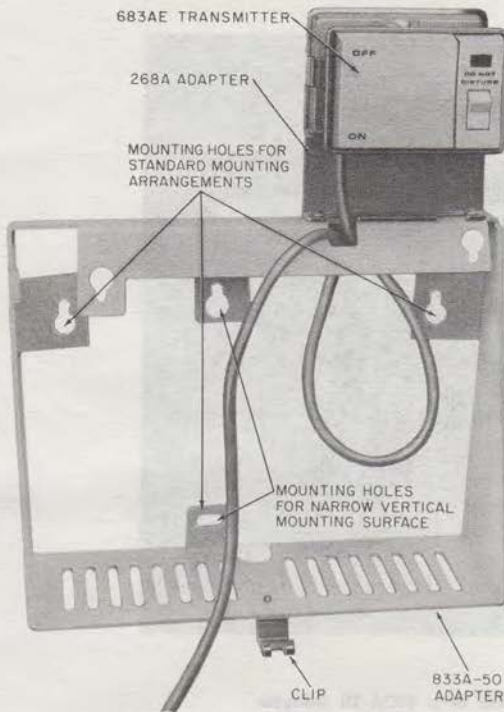
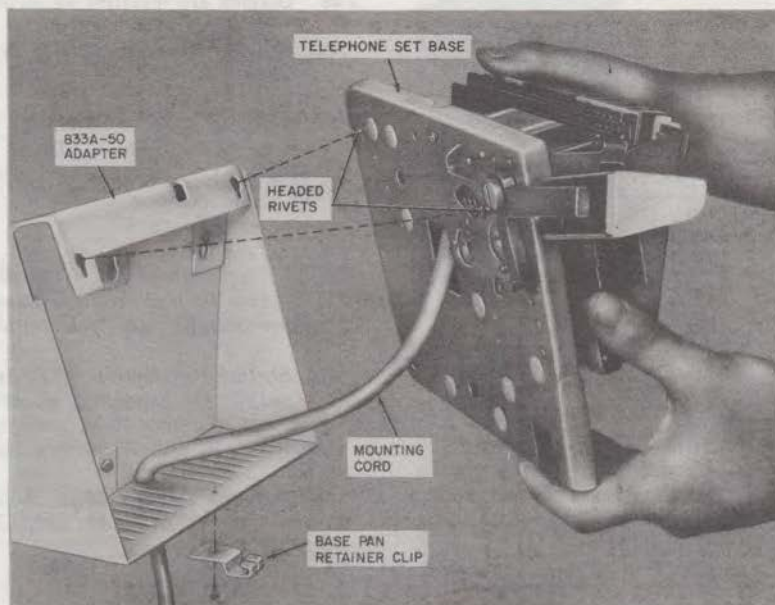

Fig. 3—833A-50 Adapter with 268A Adapter and 683AE Transmitter
Fig. 4—Mounting Telephone Set Base onto 833A-50 Adapter
3.02 All DM and EM (wall type) sets are shipped with an 833A-50 adapter, screw, and clip (Fig. 3) which are used for mounting the telephone set to a vertical surface. Install the 833A-50 adapter and telephone set as follows.
- (1) Mount the adapter to the wall or vertical surface as shown in Fig. 3, using appropriate fasteners (Section 080-720-105). If the mounting cord is to be dressed down the wall, it is necessary to pass the cord through the notch in the adapter before final attachment of the adapter to the wall (Fig. 4). If the cabling enters through the wall, the mounting cord may be contained within the adapter.
- (2) Remove faceplate and housing from telephone set.
- (3) Hang the telephone set on the adapter from the headed rivets that protrude from the base pan (Fig. 4).
- (4) Secure the telephone set base with the clip, and screw at the bottom of the adapter (Fig. 3).
- (5) Install telephone set options (see paragraph 3.05).
- (6) Replace housing and faceplate.
- (1) If feature is to be added to DM- or EM-type set, a 268A adapter must be used as follows:
- (a) Mount 268A adapter onto 833A-50 adapter with two screws as shown in Fig. 3
manual DO-NOT-DISTURB switch. Depression of the switch (Fig. 3) prevents voice signaling, alerting tone, and activation of the microphone. A distinctive tone is sent to any station that is calling another station on *dial intercom* when the called station does not want to be disturbed. The only signal that can be received by a station or answering position with the DO-NOT-DISTURB switch activated are tone ringing and the alerting tone and one way voice signaling associated with an *automatic signaling intercom*.